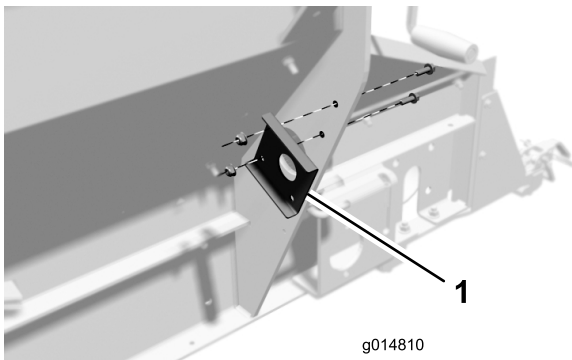

Figure 4
6. Positioning the light bracket as shown in Figure 4, secure a bracket to each gusset plate of the hopper with (2) 5/16 x 1 inch flange head screws and 5/16 inch flange nuts. The large hole is offset and needs to be positioned towards the outside of the machine.